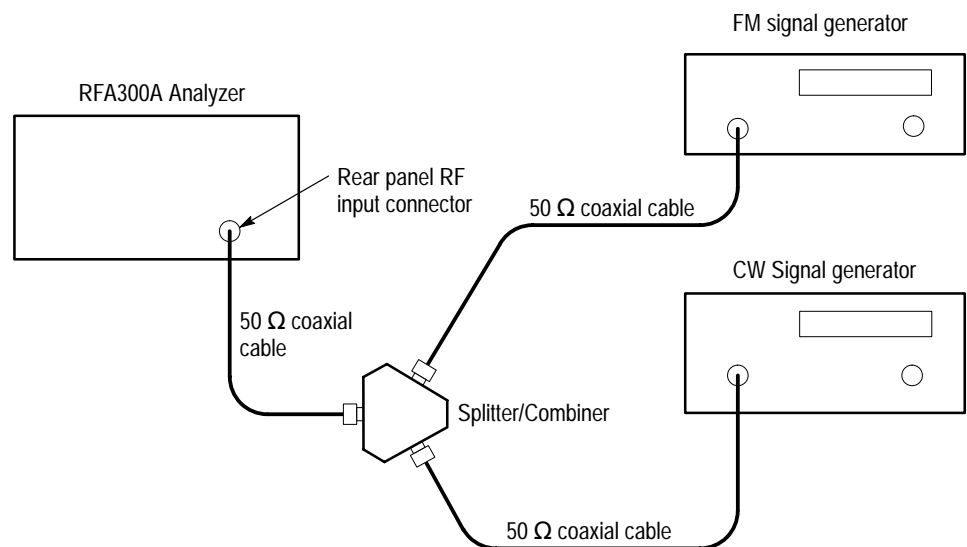

Figure 4–8: Out-of-channel accuracy test setup
10. Connect the signal generators, combiner, and RFA300A measurement set as shown in Figure 4–8.